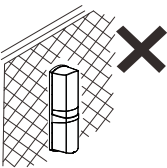

Fig 3
- (1) Do not install the device on an unstable surface, as shown in Figure 3;